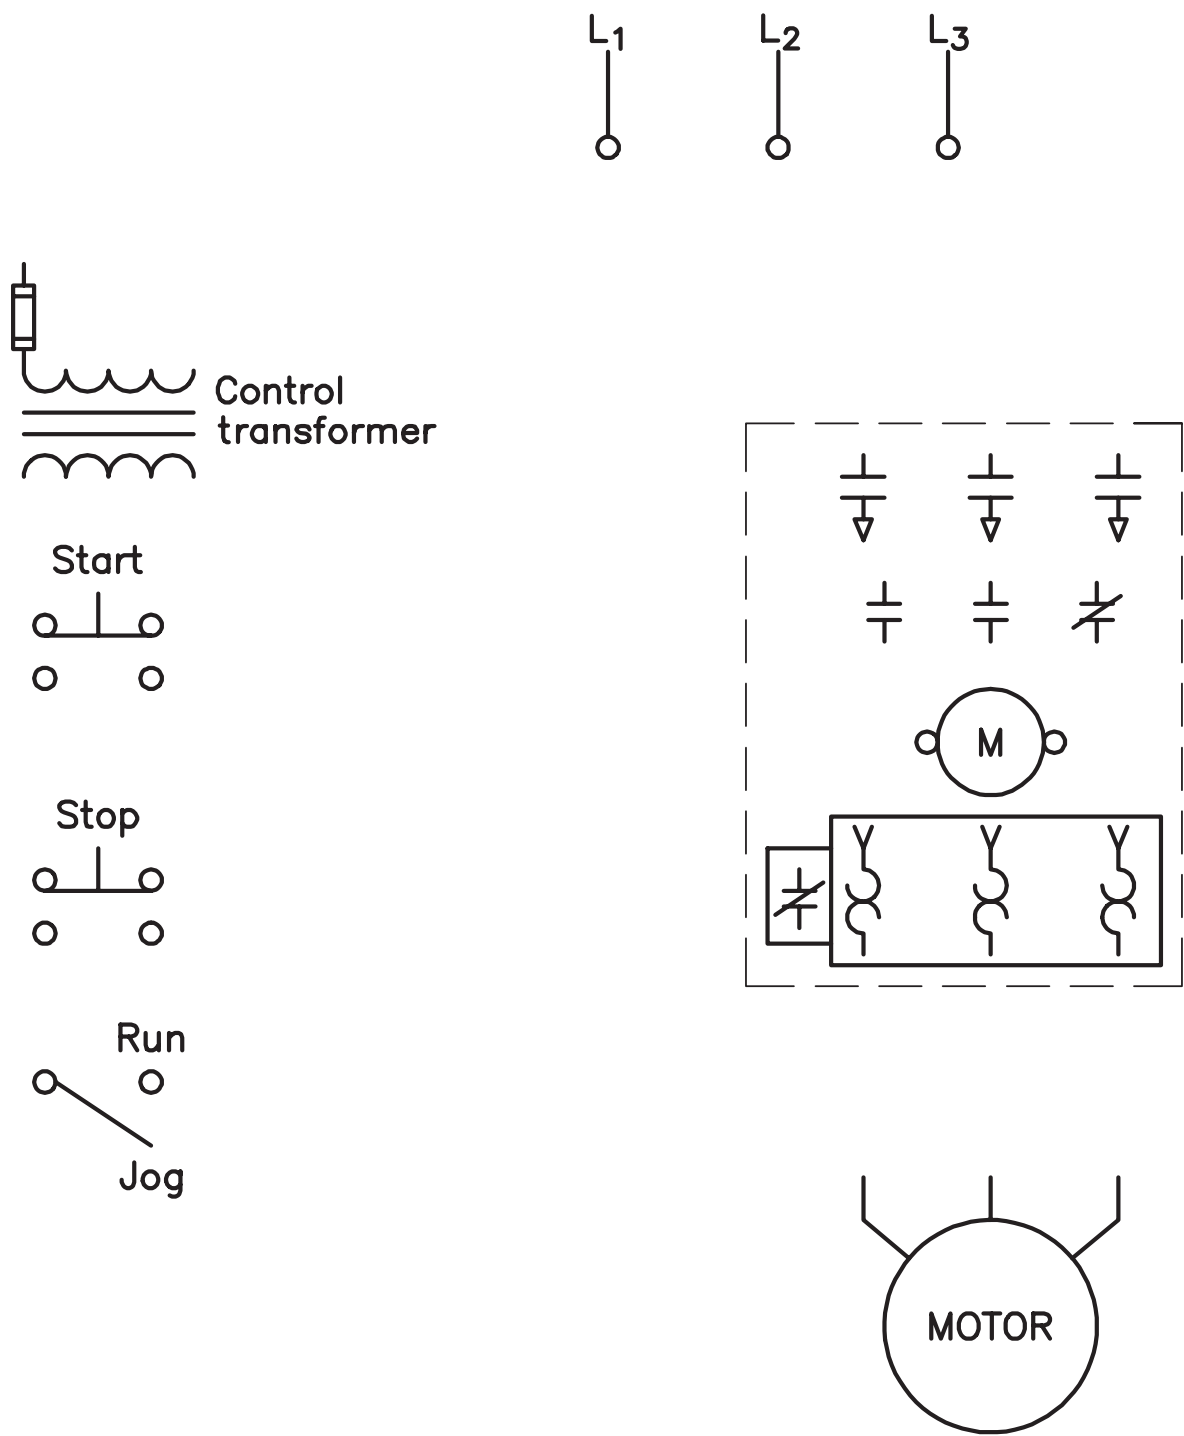

Figure 30-5 Components needed to connect circuit 1.
2. Using the components shown in Figure 30-5, place corresponding wire numbers beside the components.